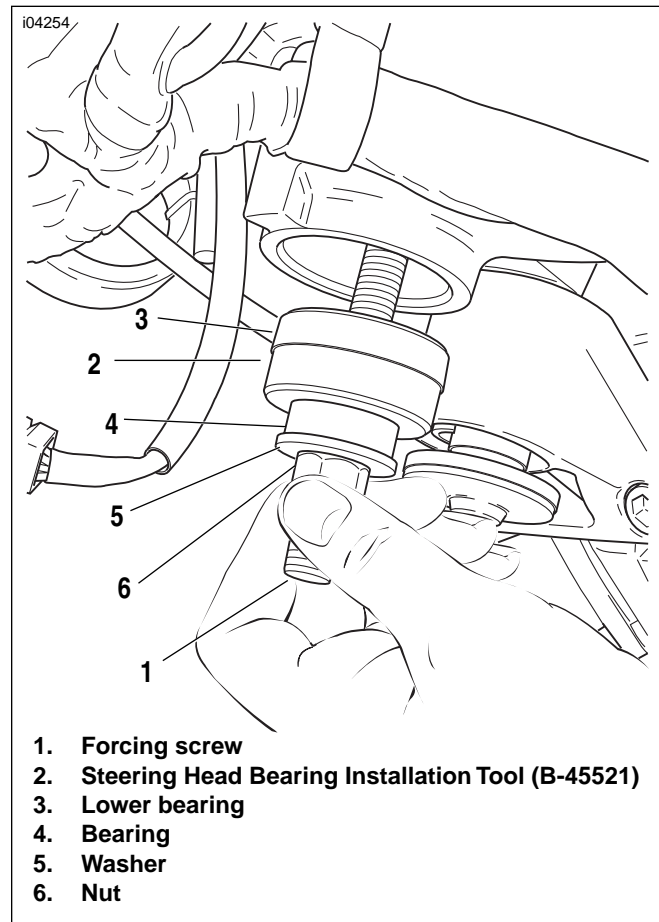

Figure 2-82. Lower Bearing
2. See Figure 2-82. Sparingly apply EXTREME PRESSURE LUBRICANT (Part No. J-23444-A) to the threads of the forcing screw (1) from the STEERING HEAD BEARING RACE INSTALLER (Part No. HD-39302), to prolong service life and ensure smooth operation. Insert the forcing screw (1) through the STEERING HEAD BEARING INSTALLATION TOOL (Part No. B-45521) (2).
4. Install the bearing (4), washer (5) and nut (6) from the STEERING HEAD BEARING RACE INSTALLER (Part No. HD-39302) onto the forcing screw (1).
5. Tighten the nut (6) by hand, until the bearing is started into the bore in the steering head.